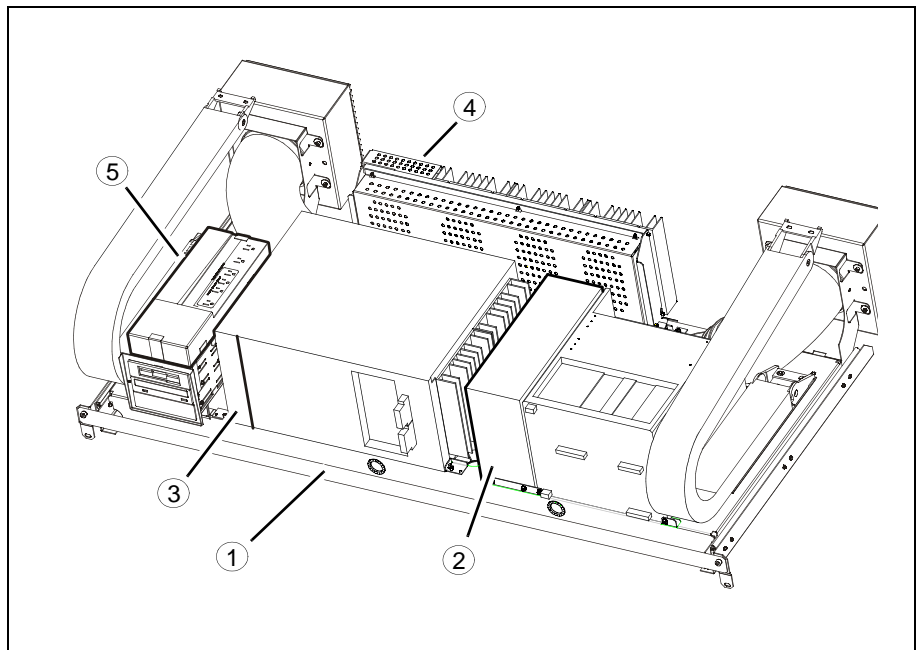

Figure 10-1. Power Supply System
The following units are included in the power supply system. All the units are located on the electric shelf ('1' in Figure 10-1):
- *PS3* ('2' in Figure 10-1) on page 10-3.